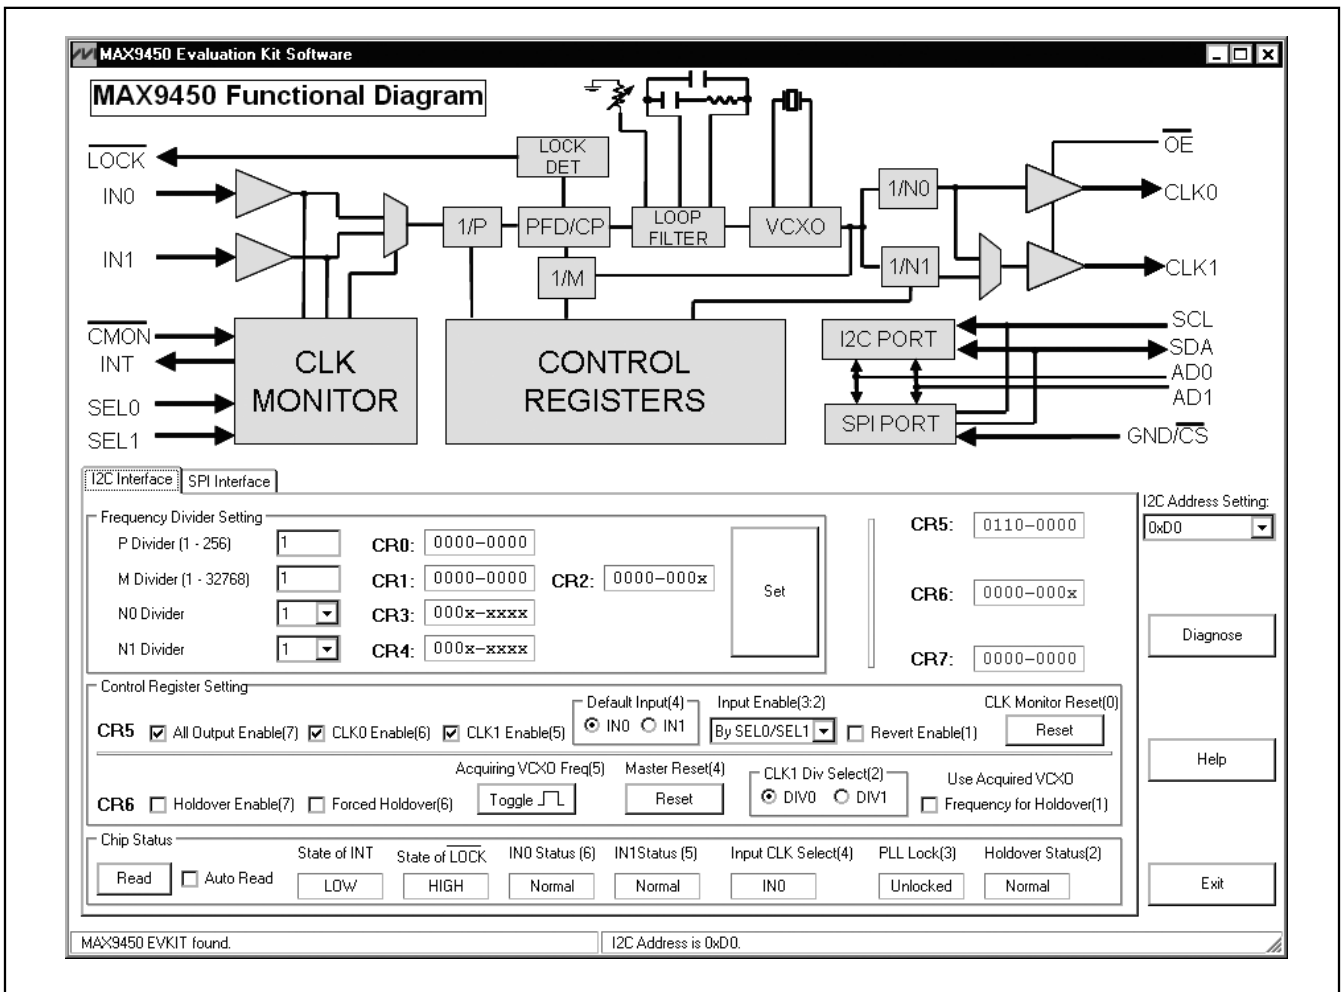

Figure 3. MAX9450 EV Kit Software—I2C Interface Tab
- 16) Follow the instructions on the window and click **OK**. The main software window appears, as shown in Figure 3.